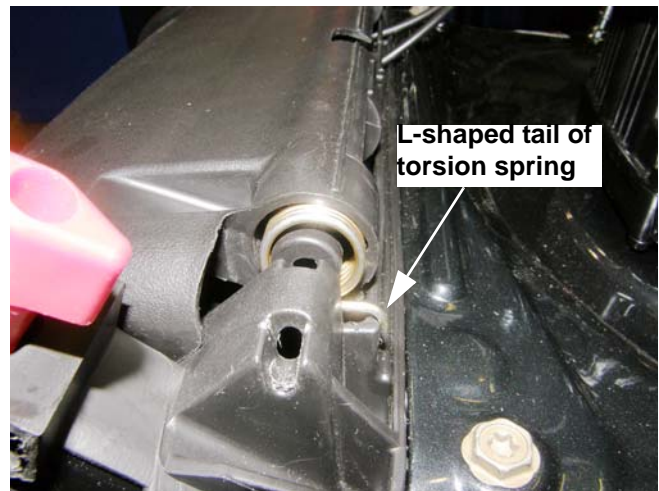

Figure 4.14
- The outer (L-shaped) tail of the spring hooks over the top lip of the rear baffle when it is correctly installed. See Figure 4.14.